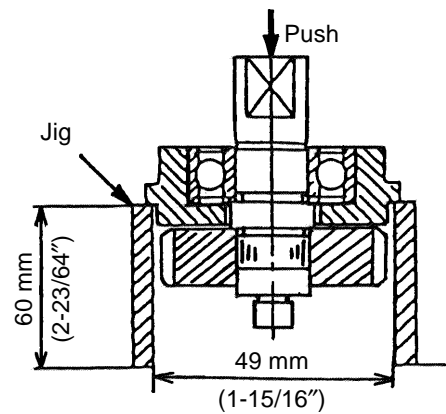

Fig. 1
- (4) Separate the Spindle Gear ② from the Bearing Holder ③.
As illustrated in Fig. 1, support the Bearing Holder ③ with an appropriate tubular jig, and push down on the end of the Spindle Gear ② with a hand press to separate the Spindle Gear ② from the Bearing Holder ③.